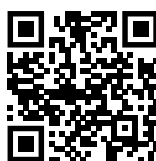

Fig. 84
- ▶ Åbn Liebherr SmartMonitoring Dashboard. (se Fig. 84)